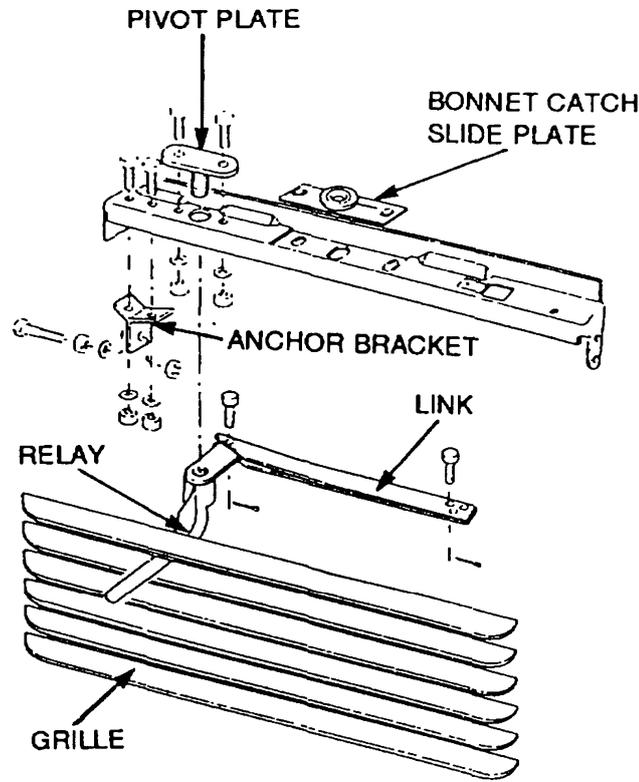

Figure 207 Bonnet Mechanism
- e. Remove the bolts, nuts and washers securing the pivot plate to the grille panel (Figure 207).
- a. Install the link to the relay with a clevis and a new split pin (Figure 207).